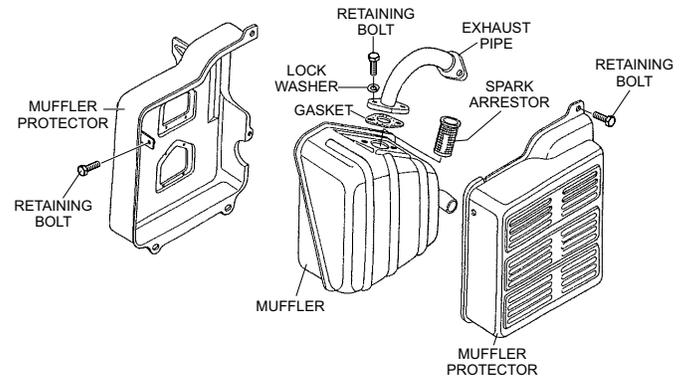

Figure 25. Spark Arrester Removal
1. Remove the muffler protector retaining bolts (Figure 25), then remove muffler protector.
2. Next, remove the retaining bolts and lock washers (2) that secures the exhaust pipe to the muffler, then remove spark arrester.